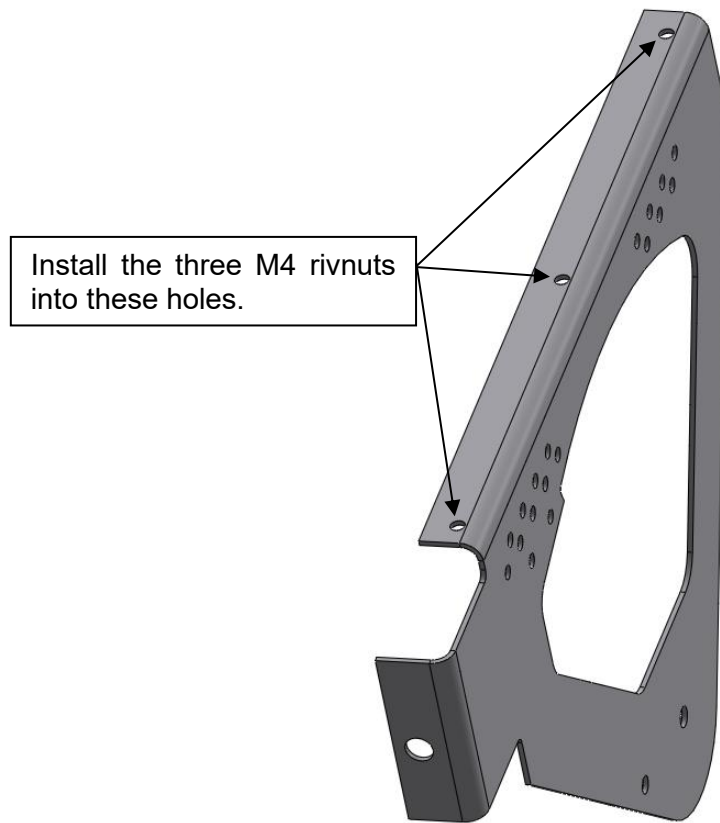

Figure 20
Step 1: Install M4 rivnuts onto the new throttle cable bracket (CT-BKT-038-R-X-0). Refer to Figure 20 for the location of where to install the rivnuts.